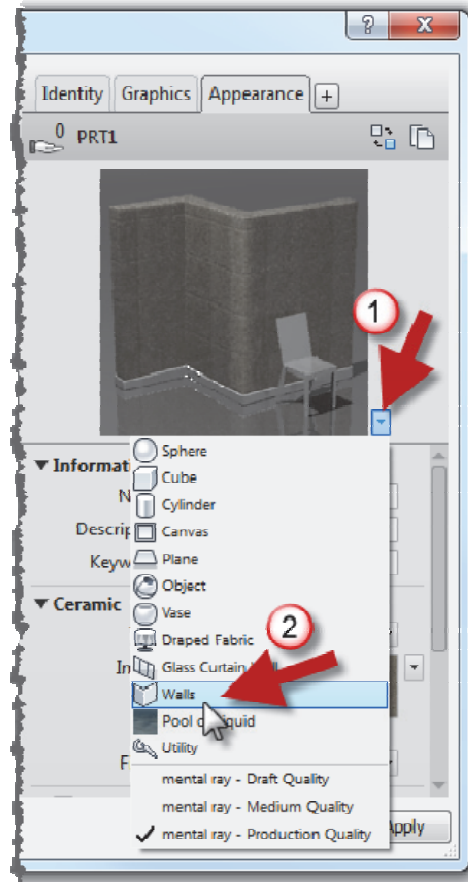

FIGURE 4-4.19 Changing preview image
74. Click the down-arrow next to the material preview and select **Walls** (Figure 4-4.19).